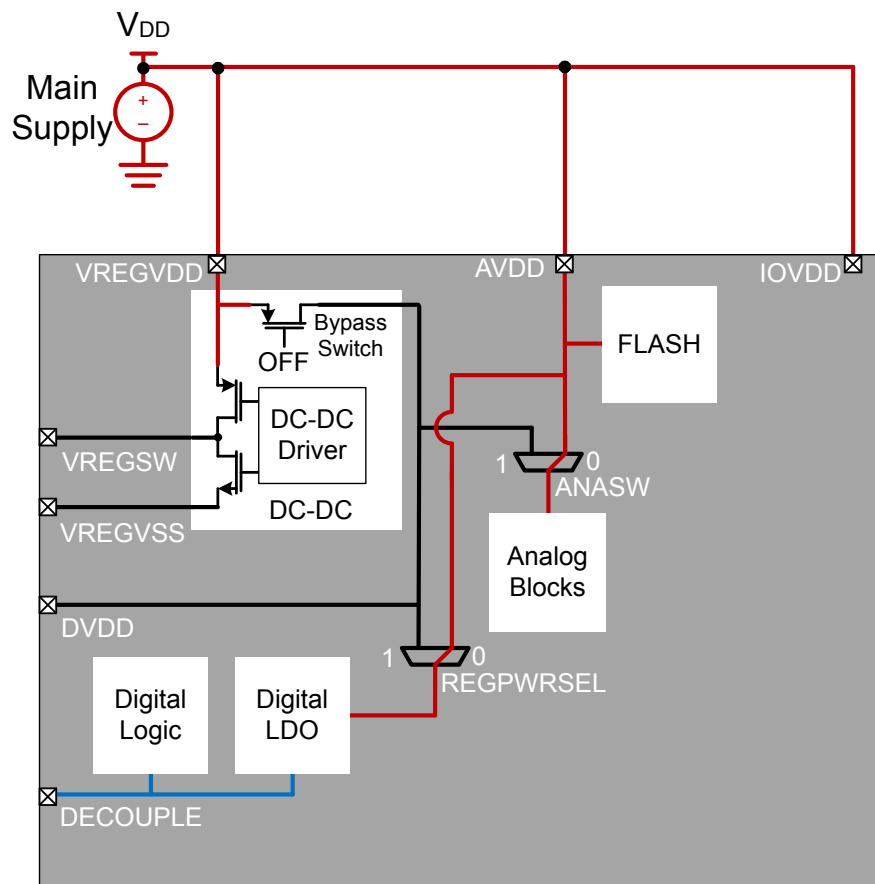

Figure 3.2. EFM32xG11/12 and EFR32xG12/13/14 Unconfigured Configuration
**Note:** Figure 3.2 EFM32xG11/12 and EFR32xG12/13/14 Unconfigured Configuration on page 12 is only provided to show the device startup default supply configuration; it is **not** a usable application configuration.